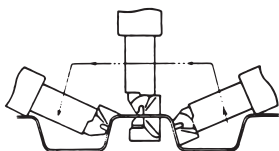
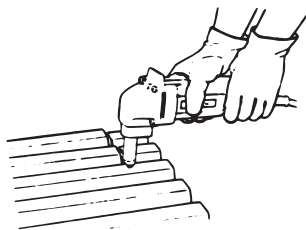

Fig. 6
Fig. 5
- (2) Grip the machine firmly with both hands as shown in Fig. 5., align with the shape of the trapezoidal plate, push the machine forward until the die holder is at right angles as shown in Fig. 6 and make the cut.